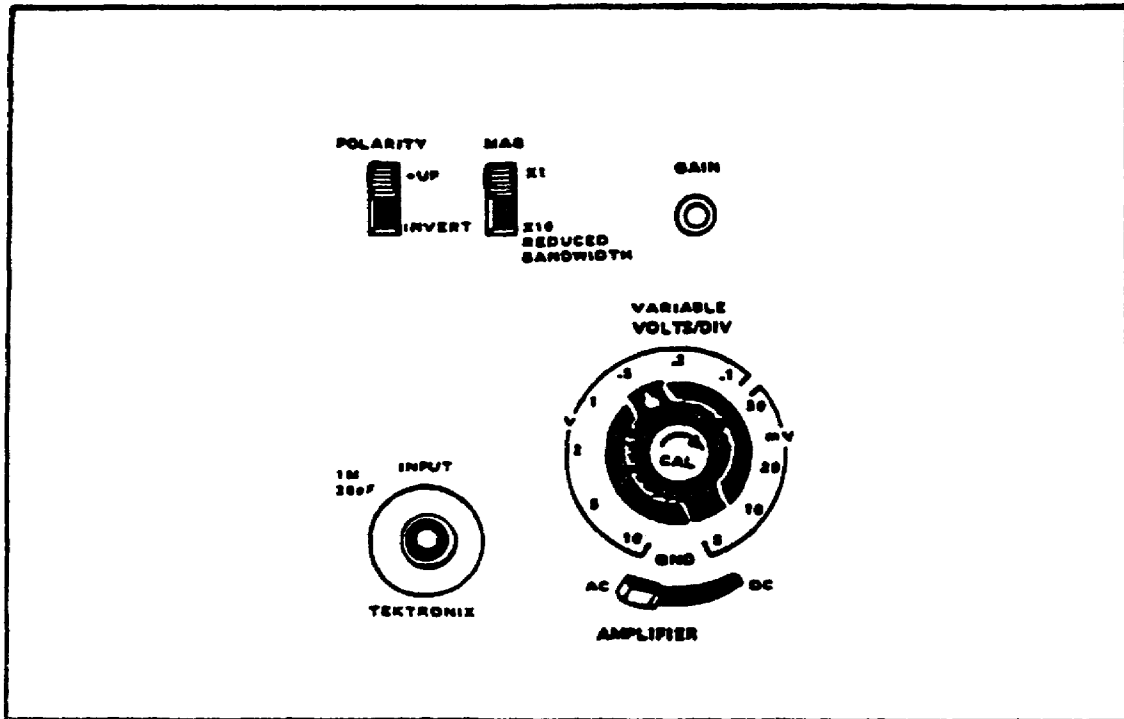

FIGURE 8. VOLTS/DIV SWITCH.
Step 4. Place the input coupling AC/GND/DC to the AC position. Turn the VOLTS/DIV switch (figure 8, on the next page) to the .5 position. Turn the red VARIABLE (CAL) switch fully clockwise until it clicks. This means that each vertical square on the screen is equal to .5 volts of input signal.